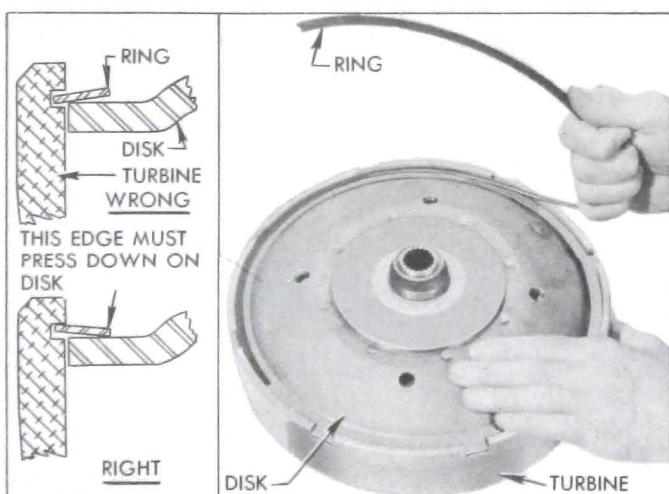

Figure 4-29—Installing Disk Retaining Ring
12. Note that the turbine disk retaining ring is “dished”. Place the ring in position with the “dish” upward so that the inner edge will bear firmly against the disk when the ring is engaged in the groove in first turbine. See figure 4-29.
13. Start one end of ring into groove in turbine, then twist the ring upward as shown in figure 4-29 to lay the ring flat on the disk so that it can be progressively entered into the groove all the way around.